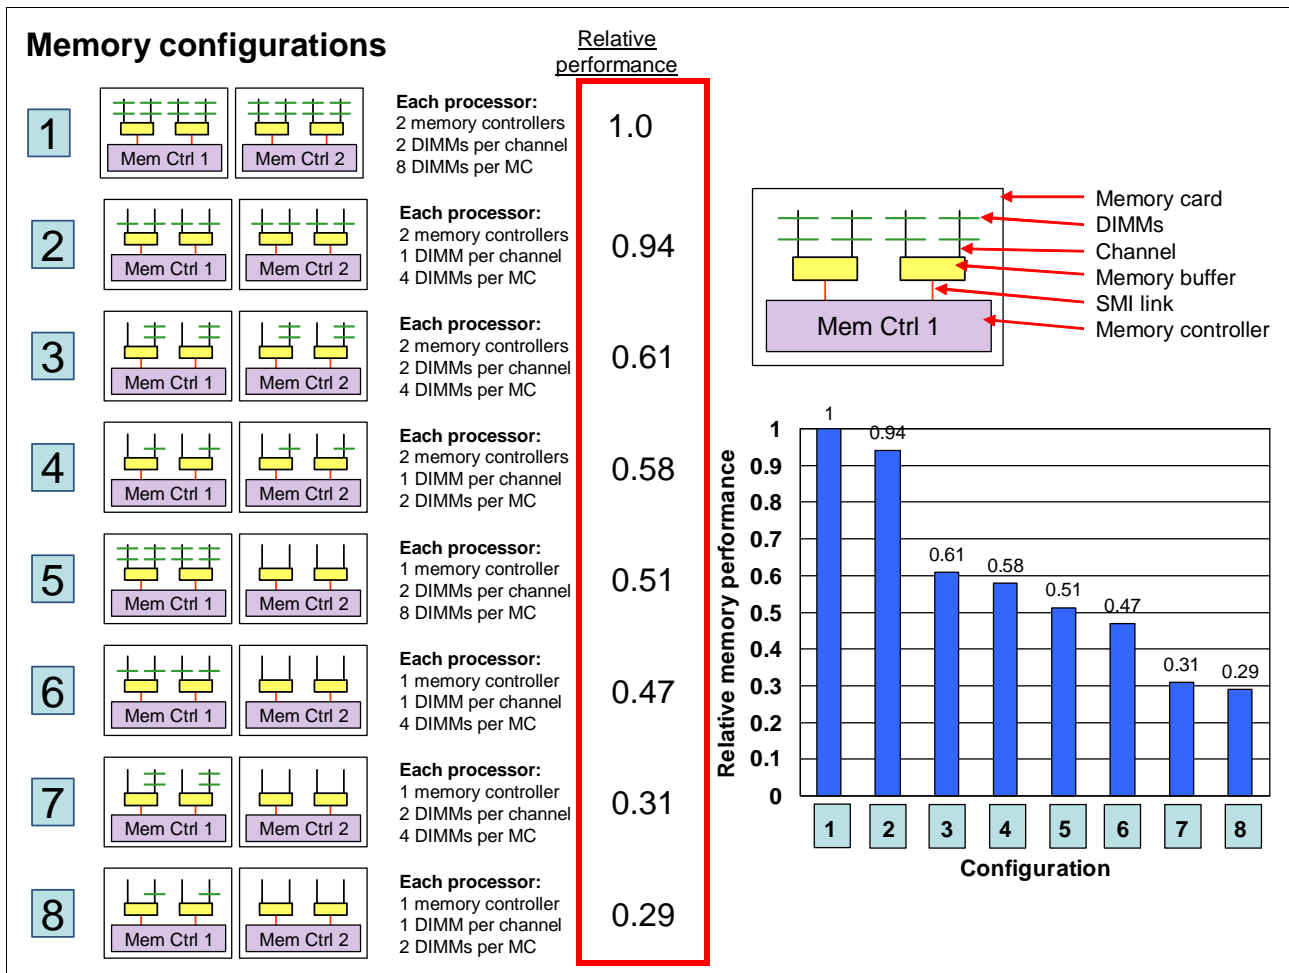

Figure 2-6 Relative memory performance based on DIMM placement (one processor and two memory cards shown)
Figure 2-6 shows eight possible memory configurations for the two memory cards and 16 DIMMs connected to each processor socket in an x3850 X5. Similar configurations apply to the x3690 X5 and HX5. Each configuration has a relative performance score. The following key information from this chart is important:
- ▶ The best performance is achieved by populating all memory DIMMs in the server (configuration 1 in Figure 2-6).